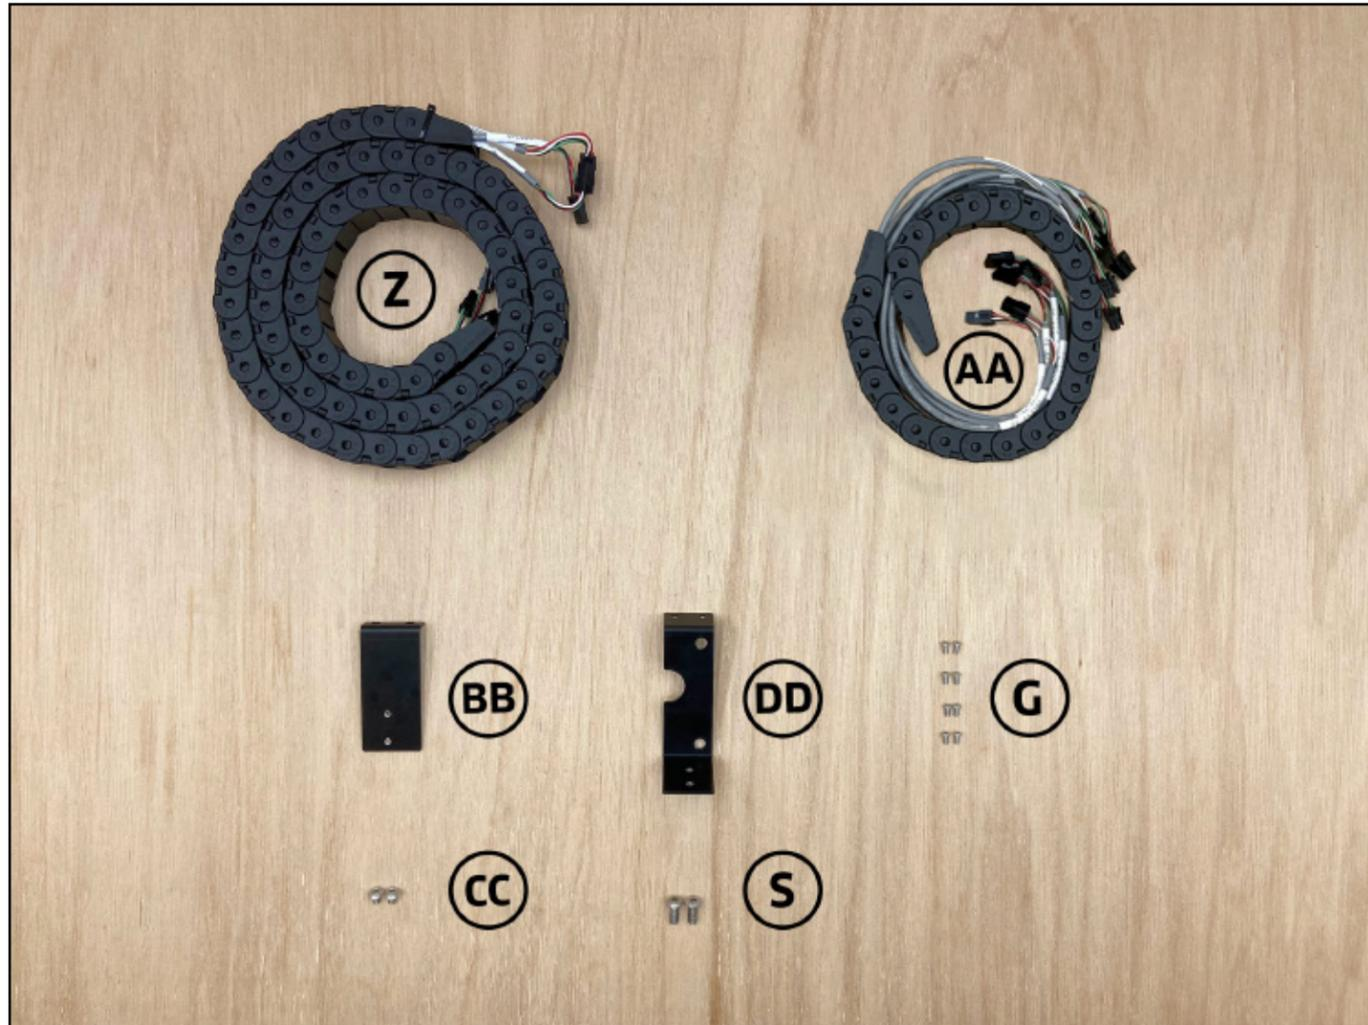

Figure 6-1
Step 6 – Drag Chain box contents; see *Fig. 6-1*.